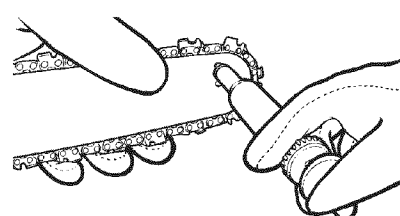

Fig. 50
2. Insert the tip of the lube gun (not included) into the lubrication hole and inject grease until it appears at the outer edge of the guide bar sprocket tip (Fig. 50).